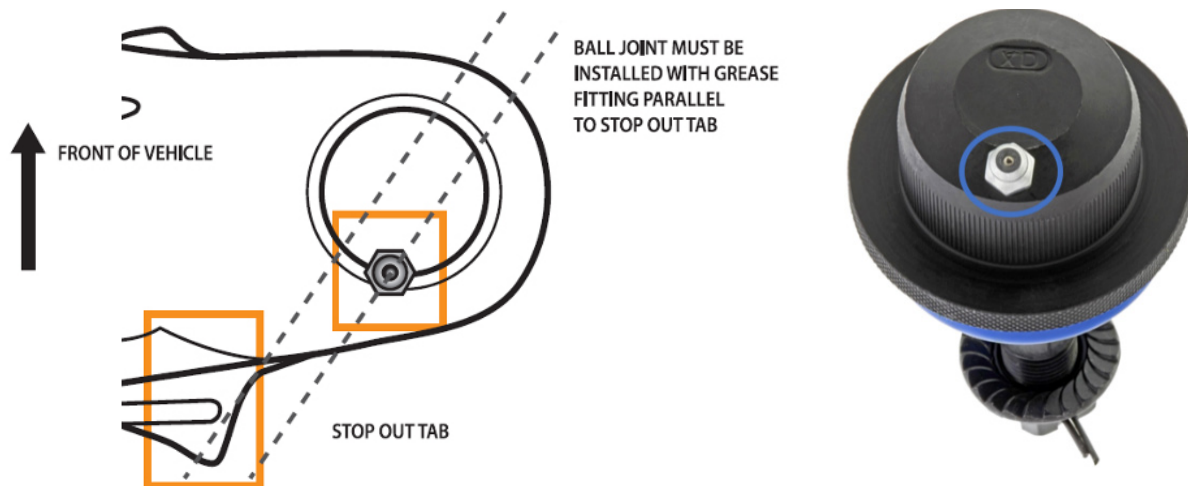

Figure 1. To ensure adequate clearance between components, ball joint must be installed with grease fitting parallel to lower stop out tab
- The ball joint must be installed with the grease fitting in parallel with the lower axle stop out tab. **See Figure 1.**